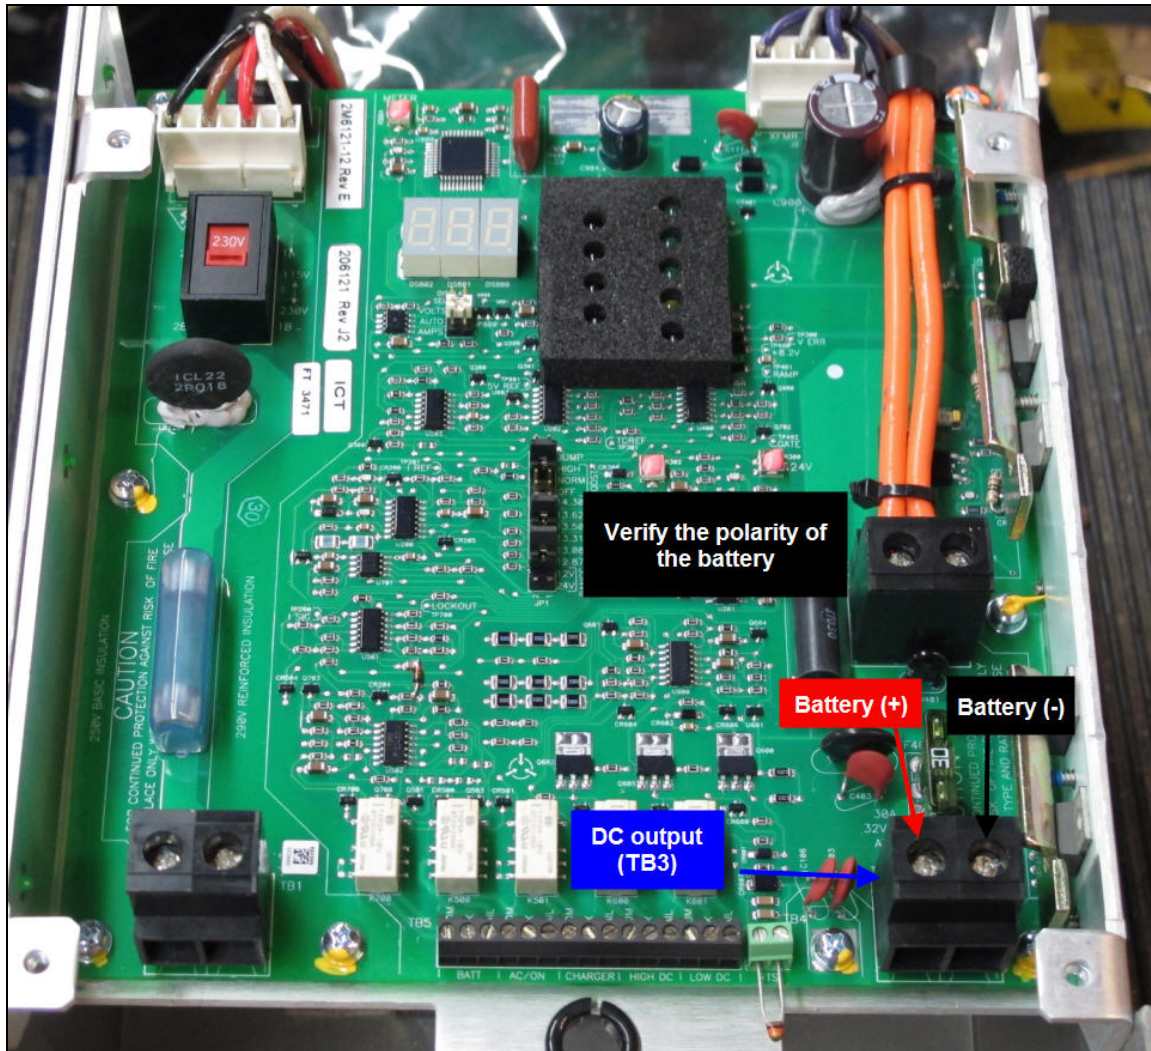

Figure 9
6. Battery Fault Possible Cause 5: Reverse battery (see Figure 9)